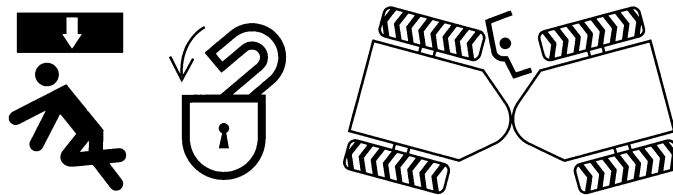

Figure1-35
• Any part of your body should never get into working area of moving parts of the loader. Along with the movement of working equipment, the space of linkage devices will increase or decrease, approaching to this area can result injuring. If it is necessary to enter into the space that between moving parts, please stop the engine and lock the working equipment. (Figure 1-35)